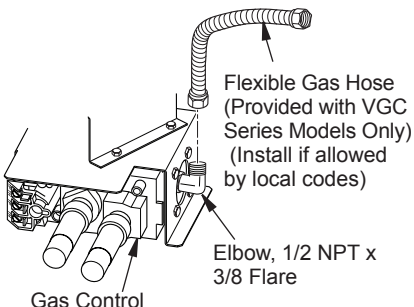

Figure 11 - Attaching Flexible Gas Hose to Heater Gas Regulator
1. Apply pipe joint sealant lightly to male threads of the 1/2 NPT side of gas fitting elbow (provided) and connect to inlet side of gas control. Remove gas fitting from flexible gas hose (provided) before connecting to elbow (see Figure 11).
4. Disconnect gas line from heater base as shown in Figure 11, page 13.